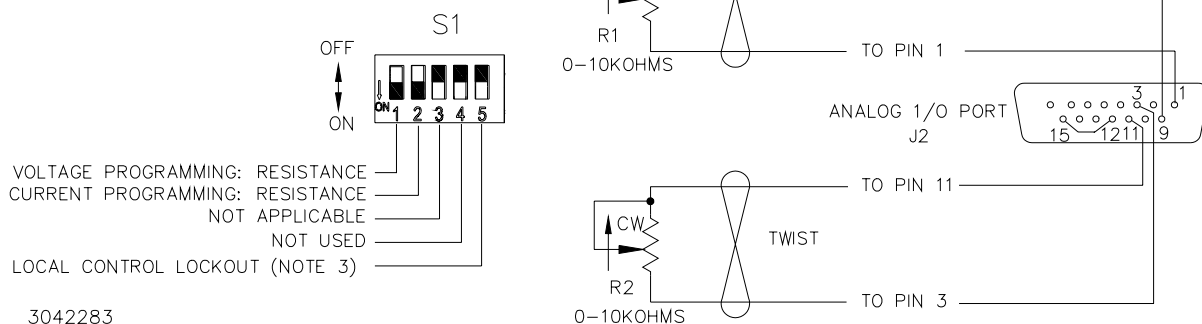

FIGURE 3-14. ANALOG PROGRAMMING OF OUTPUT VOLTAGE OR CURRENT USING RESISTANCE
Figure 3-14 is a simplified diagrams of the KLR showing the switch configuration and external connections required for analog programming using an external resistance.
3. Configure Analog I/O Port J2 (Figure 2-2) by referring to Table 2-7 and Figure 3-14 (grounding J1 pin 12 enables analog programming).
With the power supply configured as shown in Figure 3-14 and assuming the load causes the power supply to operate in voltage mode, varying external resistor R2 from 0 to 10K causes the output voltage of the power supply to vary linearly from 0 to full scale, while R1 can be used to adjust the current limit. When the power supply operates in current mode, R2 will adjust the voltage limit and R1 will adjust output current.